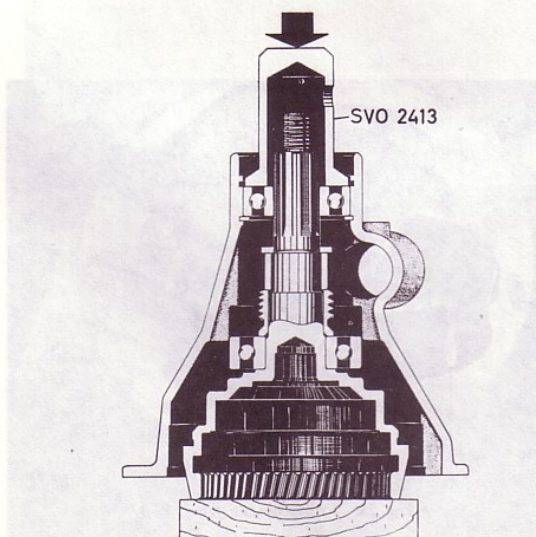

Fig. 19. Fitting the output shaft
3. Support under the output shaft with a block of wood. Fit on the speedometer driving gear (30), spacer (29) and thrust washer (24). Press on the rear casing with drift SVO 2413, see Fig. 19. Fit on the circlip for the rear bearing. Press in the oil seal (27) with drift SVO 2422. Press on the end locking wire.